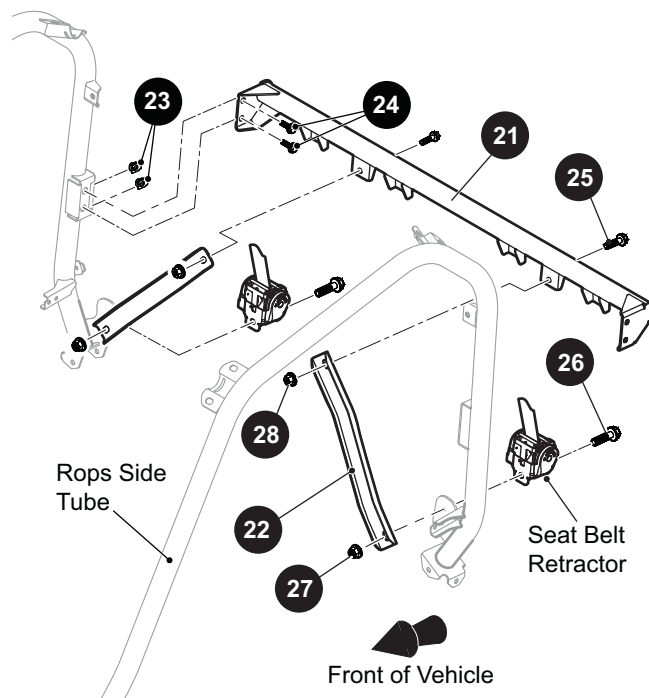

Fig. 7 Cross Bar and Supports
- Position the ROPS cross bar (21) as shown (Ref. Fig. 7).
- Align the mounting holes on the cross bar (21) with the corresponding holes in the ROPS side tubes.
- Secure with bolts (24) and u-nuts (23).
- Position supports (22) as shown (Ref. Fig. 7).